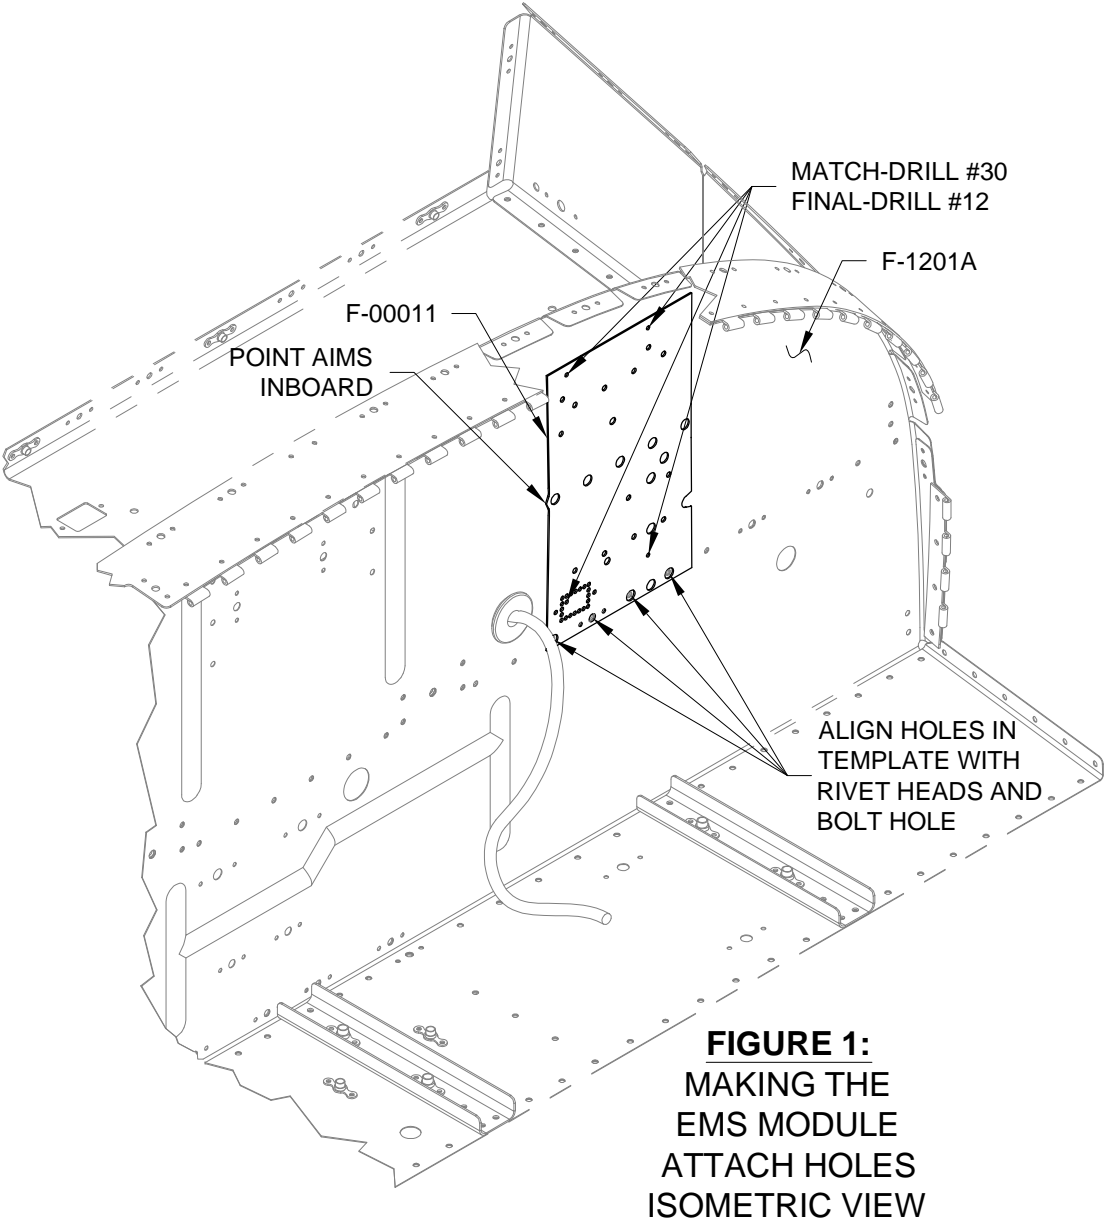

FIGURE 1:
Align the F-00011 SkyView Template to the F-1201A Firewall Upper by placing the holes in the template over the rivet heads and bolt hole in the firewall as shown in Figures 1 and 2.
Step 2: Match-Drill #30 the four locations indicated in Figures 1 and 2. Cleco each hole as you drill.